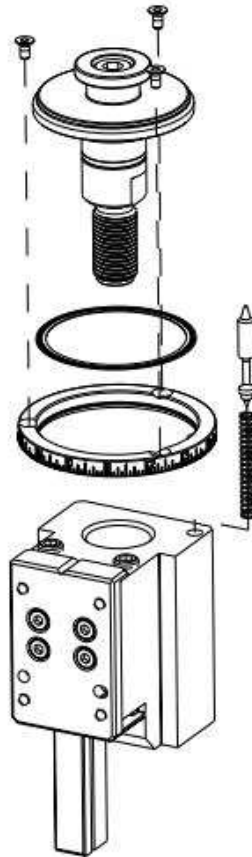

Figure 12
6.7. Adjustable Crimp Height Repair [Reference Figure 12]